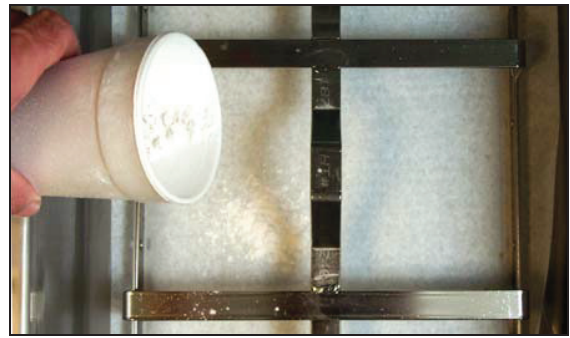

Figure 4
- When the hold-down ring is in position, if using filter paper, sprinkle one cup of filter powder evenly over the paper. (See Figure 4)